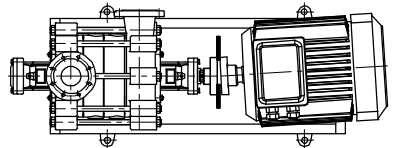

Fig. 4a. Angle error in horizontal plane and to settle
- Alignment errors can be either on vertical plane or horizontal plane. On vertical plane alignment is corrected by inserting shims under the pump or motor foot, and on horizontal plane alignment is corrected by sliding the pump and/or motor horizontally sideways by using the gaps at mounting holes. Fig. 4a, 4b, 4c, 4d show alignment of coupling step by step.